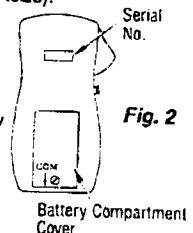

Fig. 2
1. Loosen screw located toward the bottom center on the back of the instrument (see fig. 2).
- 1) Insert one insulated voltage test lead connector into the right hand voltage receptacle (viewing instrument from front) in the bottom of the instrument. Looking at the back of the instrument, this voltage receptacle is marked "COM". (See fig. 2).